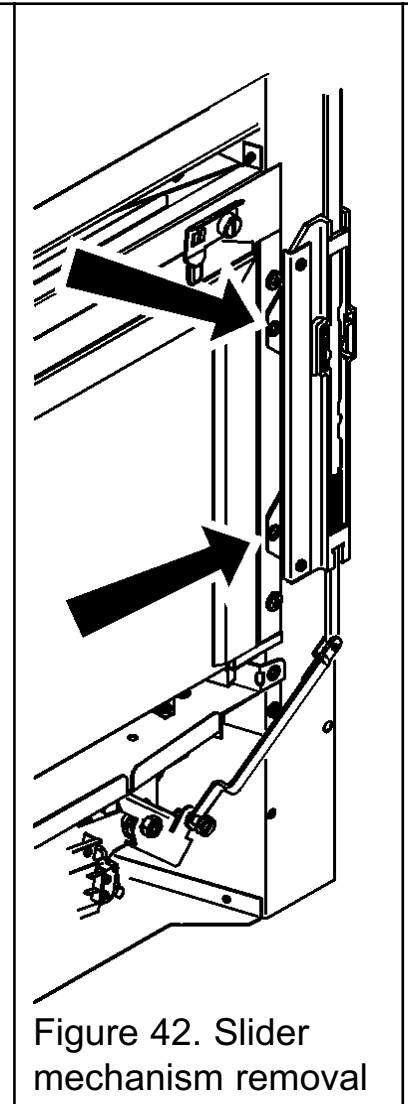

Figure 42. Slider mechanism removal
3. Detach the slide unit by removing two screws securing it to the convection box flange (See figure 42).